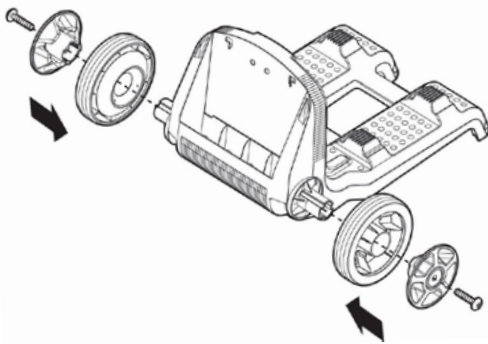

Figure 8
1. Using two of the shorter Phillips-head screws provided with the caddy, secure both caddy wheels to the caddy chassis. See **Figure 8**.